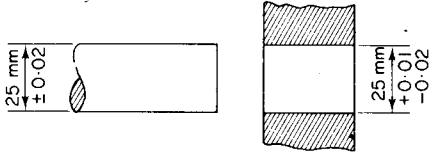

Fig. 22
84. Fig. 22 shows a hole and shaft combination. The kind of fit obtained is called a